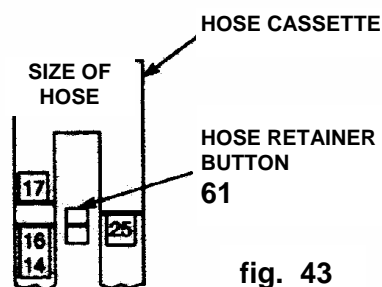

fig. 43
The large-model cassette features adjustable hose retainers on in- and outlet ends. These retainers adjust hose clamping action for different sizes of hoses. To adjust setting knob (61) make reference to fig. 43 and the reference table below: